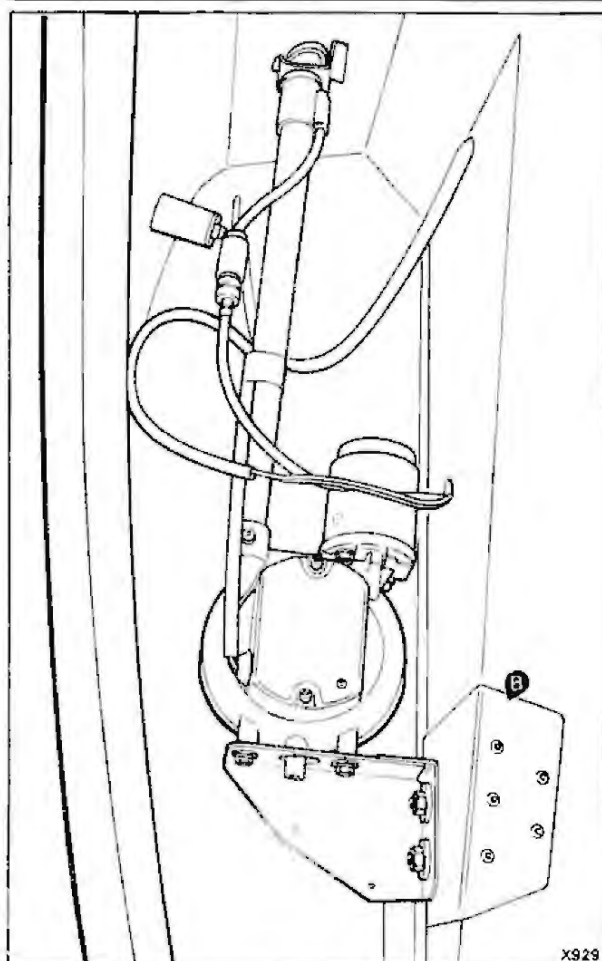

Fig. 3
- 6 Affix the bracket 'B' securely to the body section using the pop rivets supplied in the fitting kit (see fig. 3).